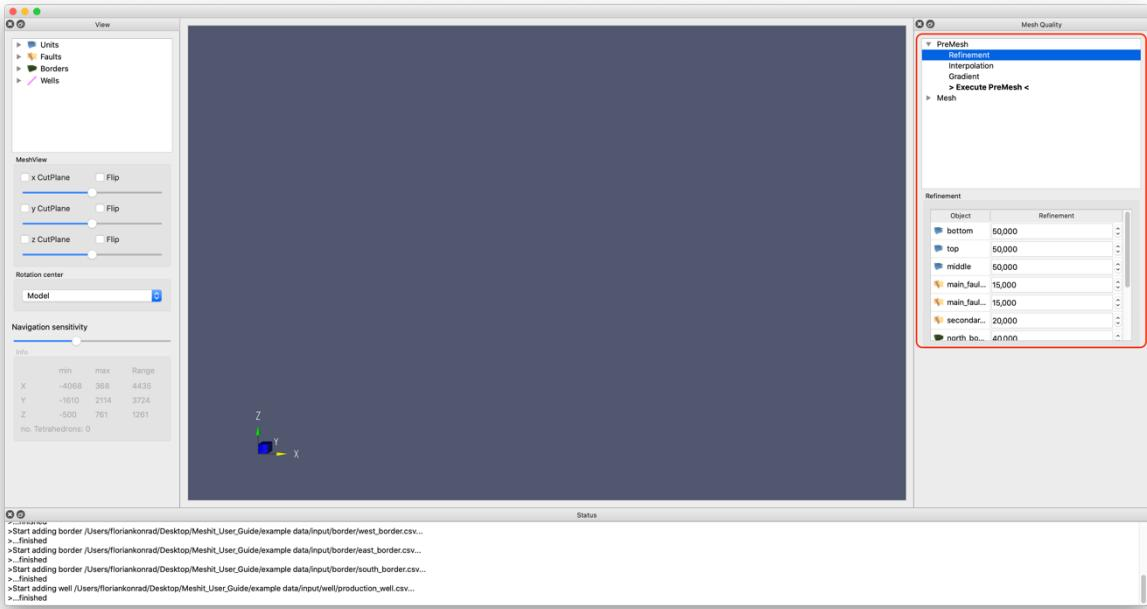

Figure 2 Refinement menu for the PreMesh stage
- choose refinement values for each surface (see Figure 2)
- set the interpolation type (see Figure 2)